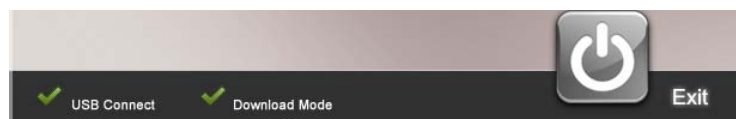

Figure 4 I3000 and Device connected successfully
1. Connect the device to the I3000. When the USB device has connected to the PC, execute the I3000.exe. When the “USB Connect” and the “Download Mode” signs on the software interface both show ready, as shown in Figure 4, this means that the device has connected to the I3000 successfully.